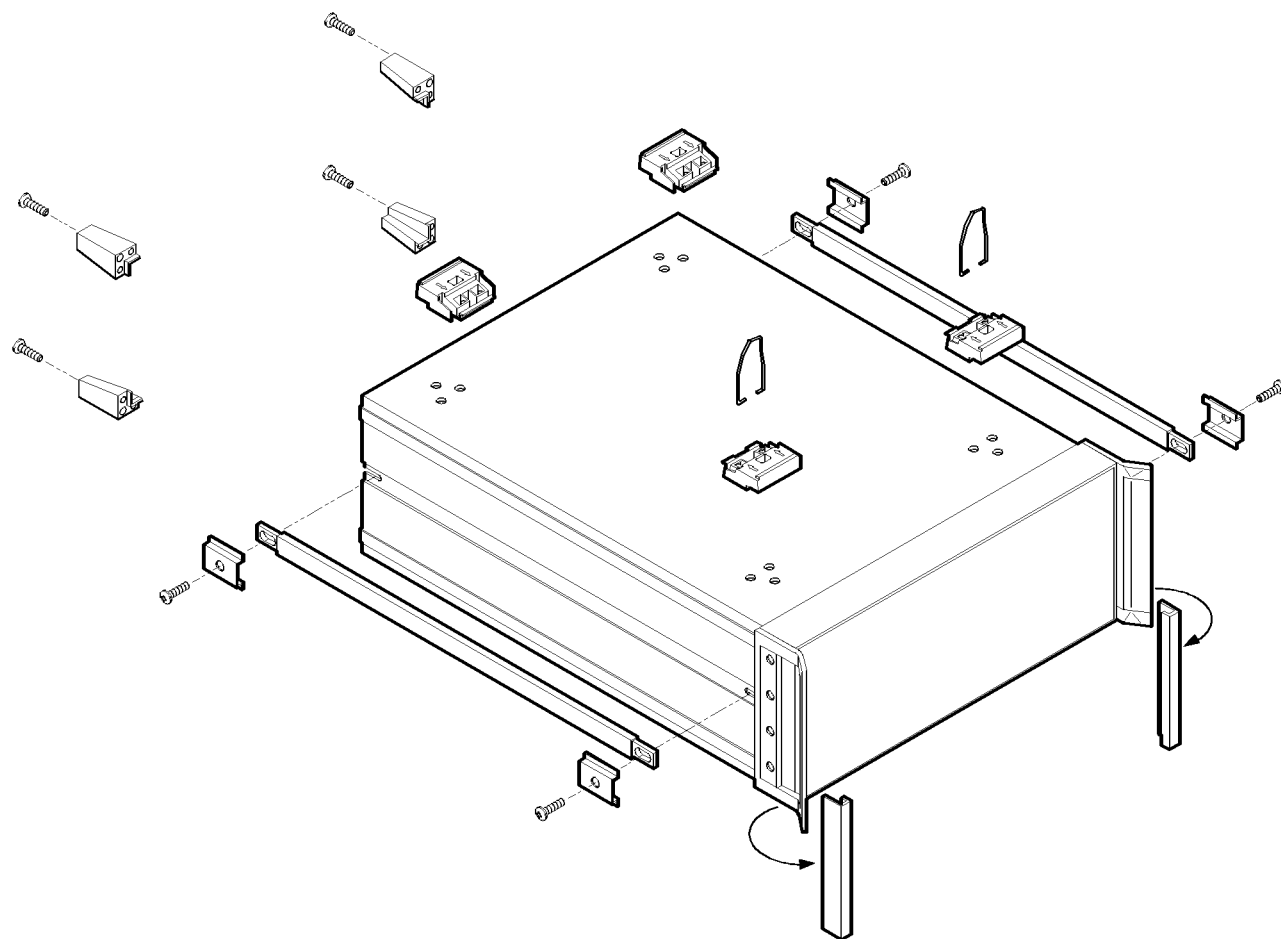

Figure 3-3. Removing the Side Straps and Feet
1. Refer to Figure 3-3. Remove handle trim strips.